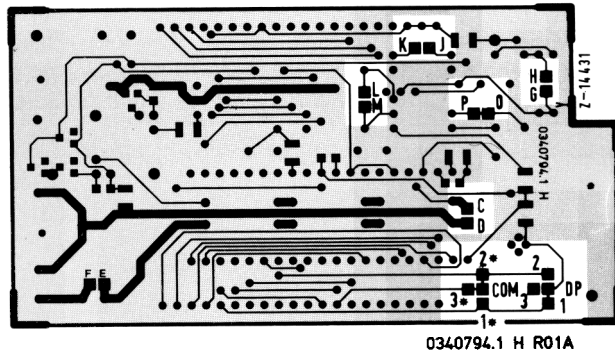

Fig. 5 PCB of field indicator (soldered side)
Table 7 Bridge assignment for decimal point (DP) on field indicator (see fig. 5)